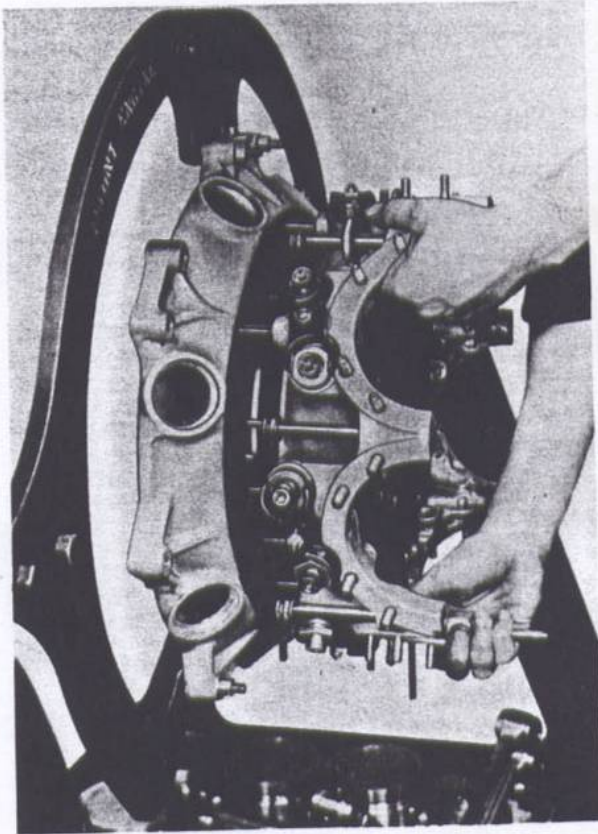

Fig. 18. Position of Cam Follower Guide Crabs
- (6) Before installing the cam follower guides check the stamped letters on the guides and the stamped letters on the crankcase to make certain that the cam follower guides are assembled in their corresponding bosses.
- (7) Install gasket on each guide in addition to a small sealing ring in each of the two bottom guides.
- (8) Install cam follower guides with cam followers and gaskets into their correspondingly stamped bosses. After cam follower guides are installed make certain that the machined seats for the forked crabs are in such position that the forked crabs can be easily installed.
- (9) Install cam follower guide crabs with the forked ends squarely seated on the milled shoulders of the guides. Secure crabs in place with retaining nuts tightened with the proper torque (see table of limits) and install cotterpins. (See Figure 18 for position of crabs).